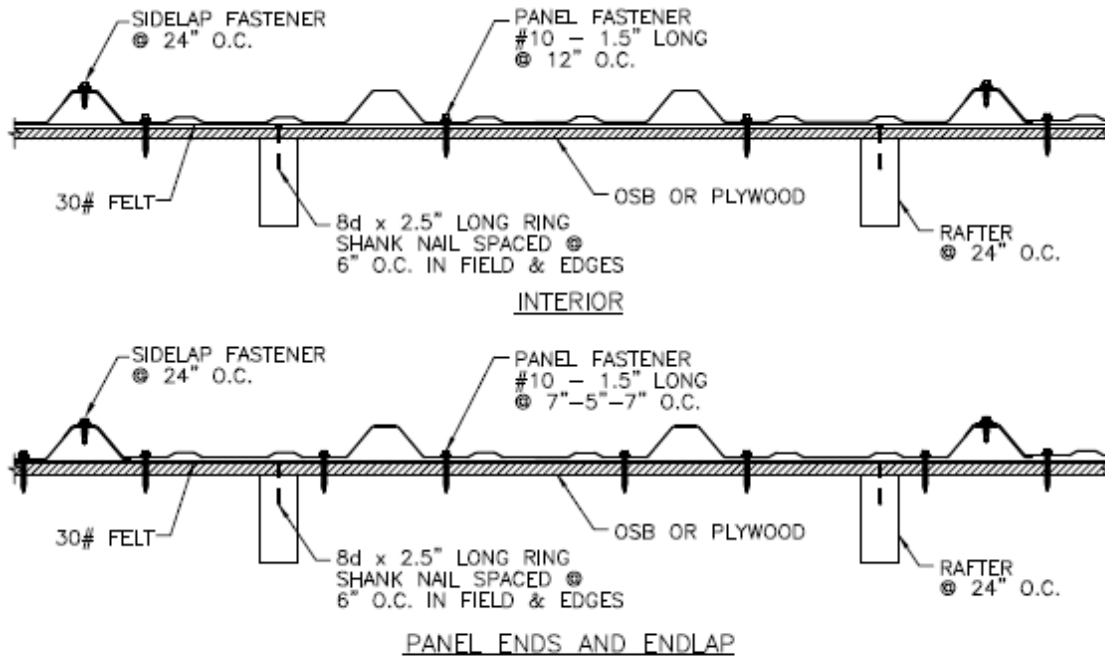
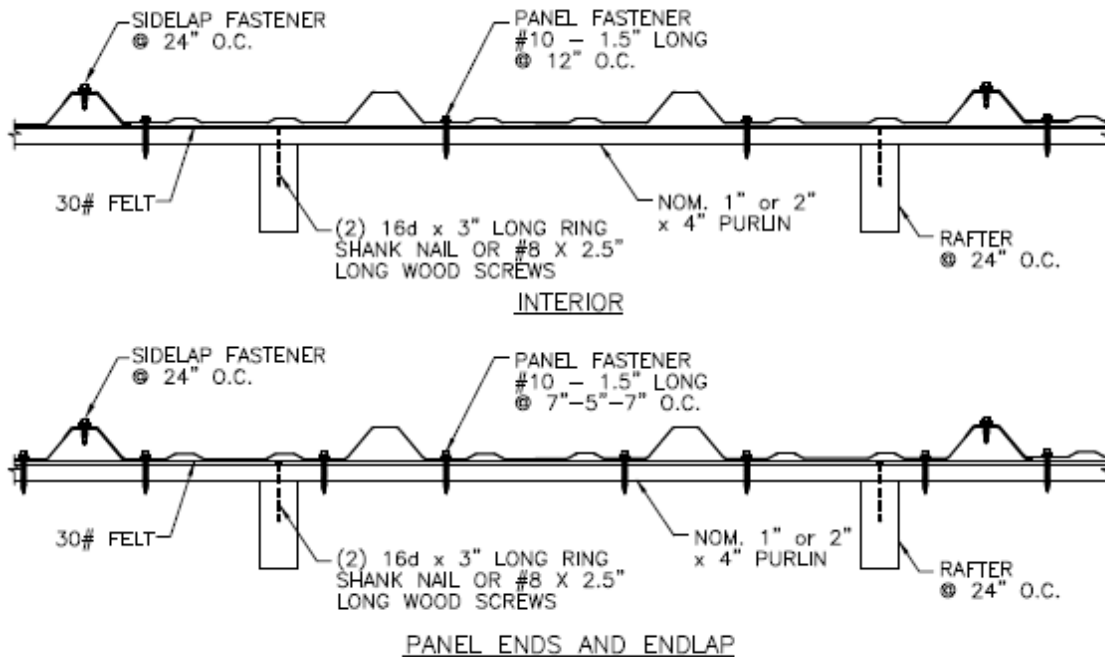

FIGURE 1
FIGURE 2
- **Metal Roofing Panels to OSB OR Plywood Deck:** Minimum #10-16 1-1/2" Kwikseal MB Woodbinder screws, manufactured by Sealtite. The fasteners must be long enough to ensure a minimum penetration of 1/4" below the wood deck. (Note: If the metal roofing panels are installed over existing roof covering, then the fastener length must be increased so that the fasteners are long enough to have a minimum penetration of 1/4" below the existing roof deck). The required fastener pattern must be as specified in Tables 1 & 2. An illustration of the fastener pattern is shown in Figure 1.
- **Metal Roofing Panels to Nominal 1" x 4" or 2" x 4" Purlins:** Minimum #10-16 X 1-1/2" Kwikseal MB Woodbinder screws, manufactured by Sealtite. The required fastener pattern must be as specified in Table 3. An illustration of the fastener pattern is shown in Figure 2.
- **Panel Ends and End Laps:** Minimum No. 10-16 x 1-1/2" Kwikseal MB Woodbinder screws manufactured by Sealtite. Refer to Figure 1 and Figure 2. For solid wood decks, the fasteners must be long enough to ensure a minimum penetration of 1/4" below the wood deck. (Note if the metal roofing panels are installed over an existing roof covering, then the fastener length must be increased so that the fasteners are long enough to have a minimum penetration of 1/4" below the existing roof deck.